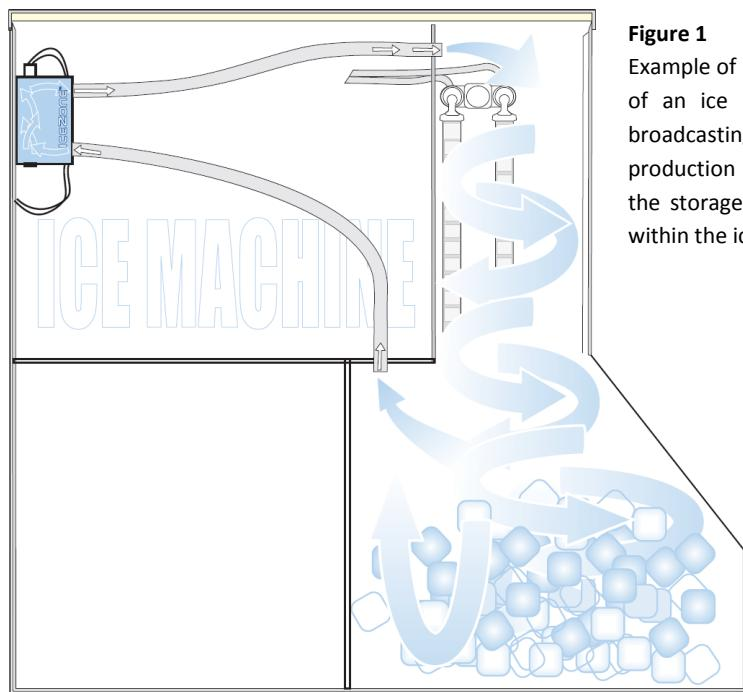

Figure 1
BioZone Scientific International's IceZone® Closed Loop ice machine sanitation system is a device intended to be installed inside commercial ice makers and ice storage bins to keep the internal air and surfaces clean. The IceZone® Closed Loop system utilizes deep ultraviolet light to eliminate bacteria, fungus, and other microbial growth from the inside air and surfaces. The ultraviolet light operates within a reaction chamber inside the IceZone® Closed Loop system and creates Photoplasma gas which is broadcast throughout the host ice maker, inhibiting organic growth in the air and on surfaces throughout the treated area (see Figure 1).
- The return line(s) should be positioned near the bin storage area so that circulation within the ice maker is maximized (see Figures 1, 14, and 15).
- 5) Connect the outlet tubing and route to the desired location, for example, above the evaporator(s) (See Figures 1, 10-13)
- 7) Connect the return intake tubing, for example, to the ice bin storage area (See Figures 1, 10-13)